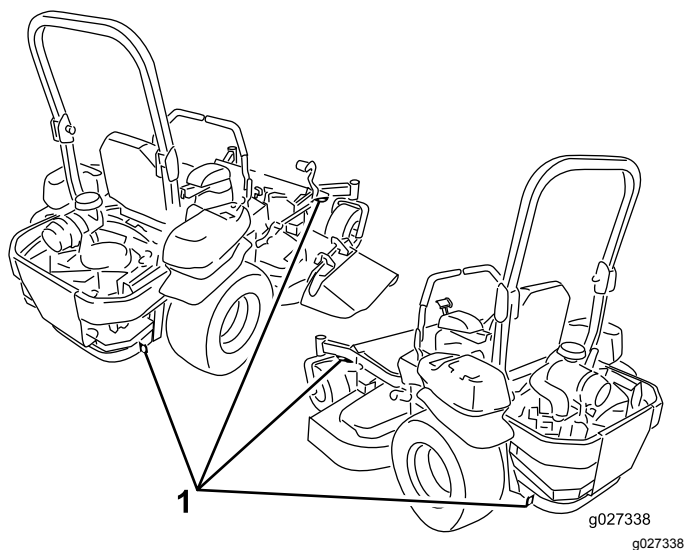

Figure 39
6. Tie down the machine near the front caster wheels and the rear bumper with straps, chains, cable, or ropes (Figure 39). Refer to local regulations for tie-down requirements.